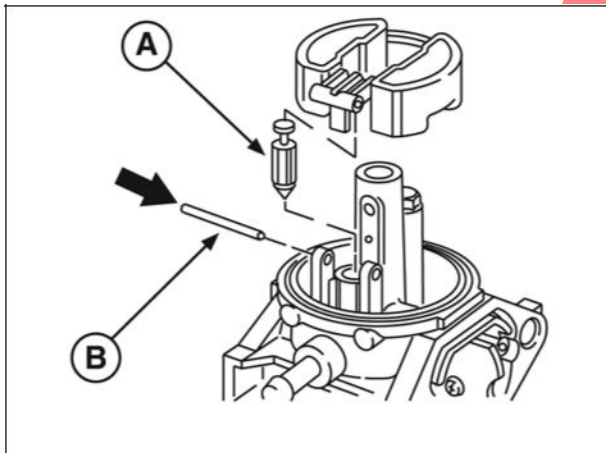

Figure 18
1. Assemble inlet valve (A, Figure 18) to float.
2. Install float hinge pin (B) from throttle side of carburetor.